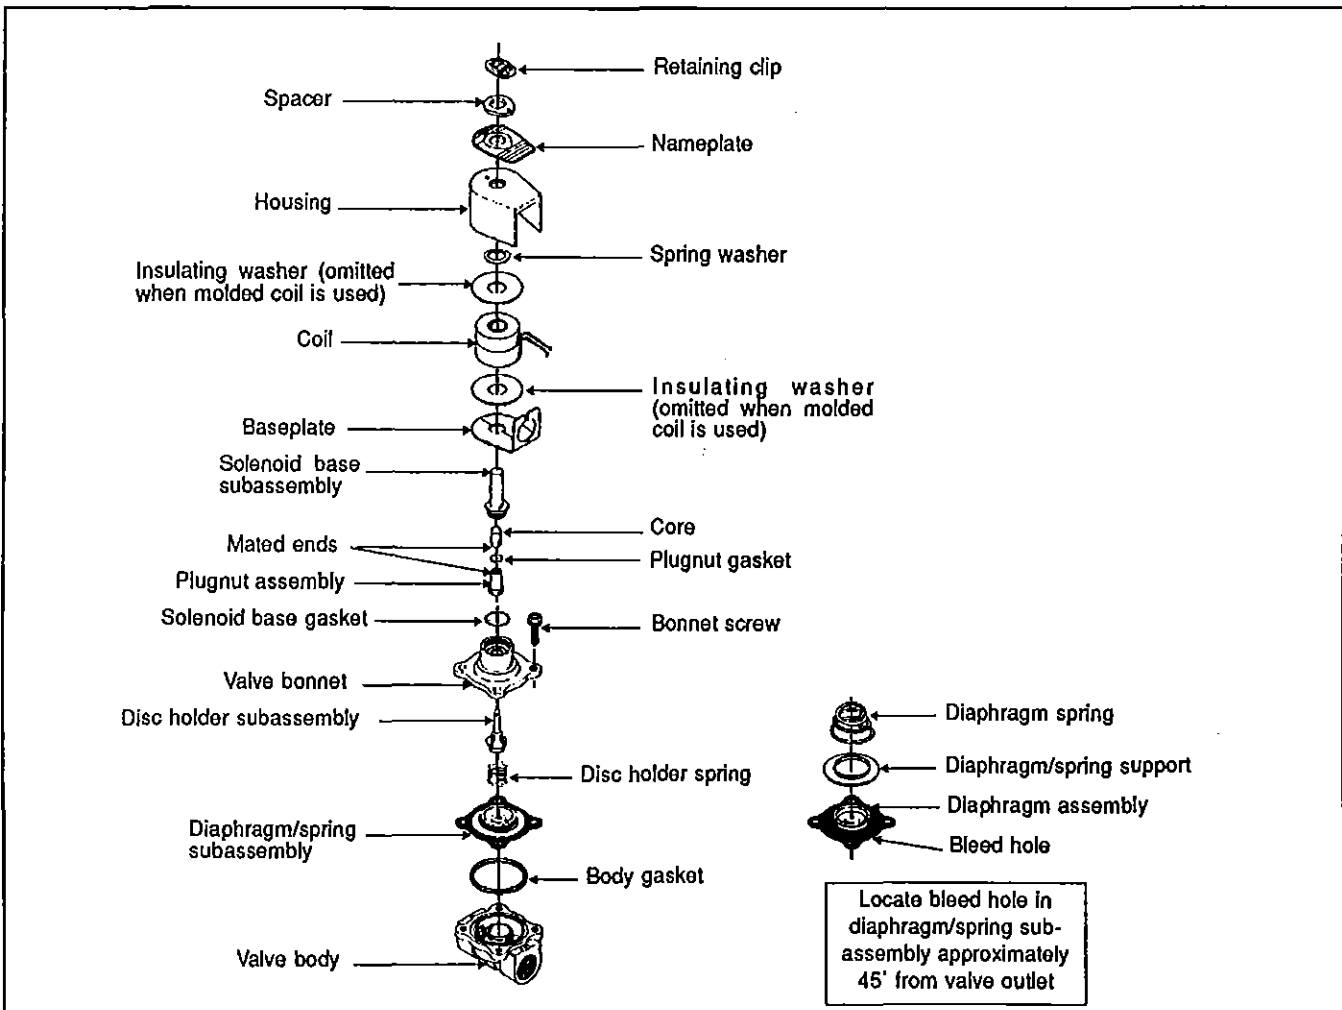

FIG. 28 - Water solenoid valve
2. Remove retaining clip, spacer, nameplate and housing (see fig. 28).
2. Disassemble valve in an orderly fashion paying careful attention to exploded views (fig. 28) provided for identification of parts.
5. Remove the four (4) bonnet screws, valve bonnet, disc holder subassembly, disc holder spring, diaphragm/spring subassembly and body gasket.
1. Reassemble by reversing sequence of disassembly paying careful attention to exploded views (fig. 28) provided for identification and location of parts.